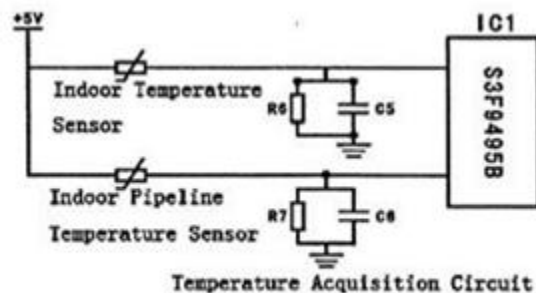

Fig. 8-2: Temperature Acquisition Circuit
5. Temperature detection circuit along with the change of temperature, the resistance of the thermistor in temperature detection circuit system is also given the characteristic to change linearly with it. In the circuit, thermistor is often used in series with resistor. It adopts series bleeder circuit, and utilizes resistor drop to transmit voltage signal to the input terminal of single chip. The master controller of single chip will process the single chip collected and executed the state of running as indicated in fig. 8-2.